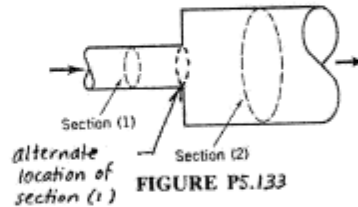

FIGURE P5.133
5.133 When fluid flows through an abrupt expansion as indicated in Fig. P5.133, the loss in available energy across the expansion, loss_{ex} , is often expressed as